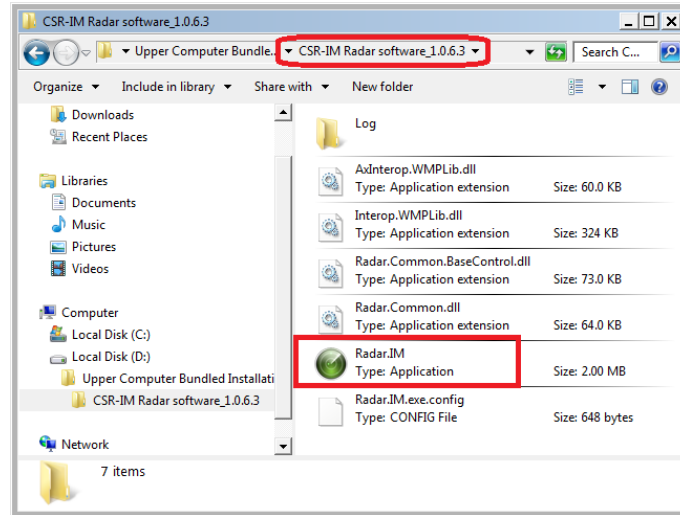

Figure 3.3: The Radar Upper Computer Program: Radar.IM.exe
- (1) Double click the program “Radar.IM.exe” in document folder 【CSR-IM Radar software\_1.0.6.4】 to open, as shown in figure 3.3